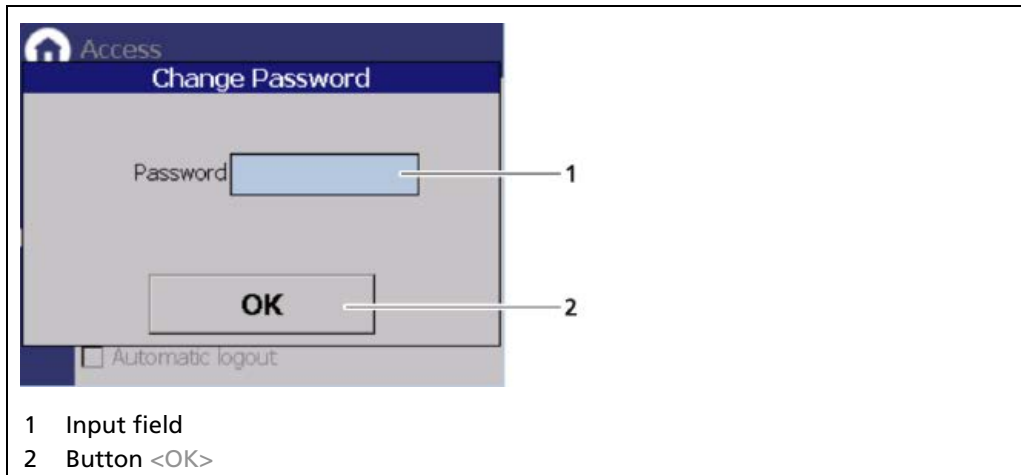

Fig. 27 Change password
1. Click on the text field (Fig. 27, item 1) to open the input field.
4. Click <OK> (Fig. 27, item 2) to confirm.